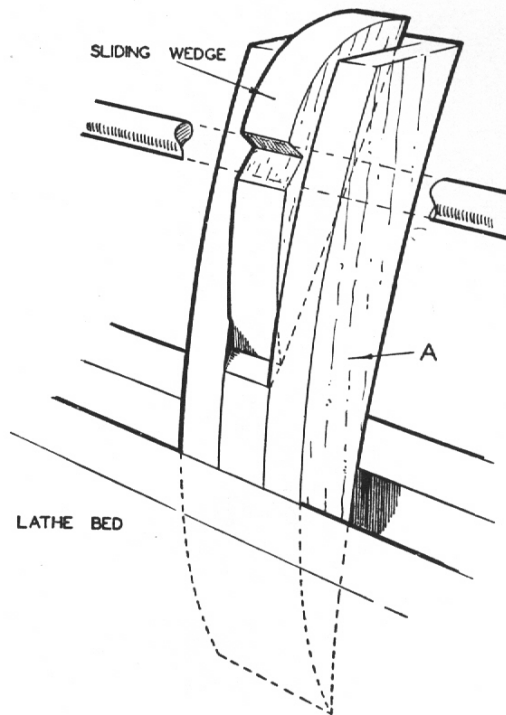

FIG. 7. SIMPLE ALTERNATIVE STEADY. Although not so effective as the steady in Fig. 6, this has its uses for some jobs.
Alternative steady. If your lathe has twin beds you can make a simpler one which helps to steady the work, but is not as good. Still it has its uses as it can be quickly slipped into the bed where it is needed. Fig. 7 shows its principle. Part (A) slides down and so forces the slip against the work, but it does not prevent the work from moving up and down. Perhaps you want a simpler steady. Well a wedge inserted between the rest and work helps to do some jobs, but it burns easily as it has only a line contact.